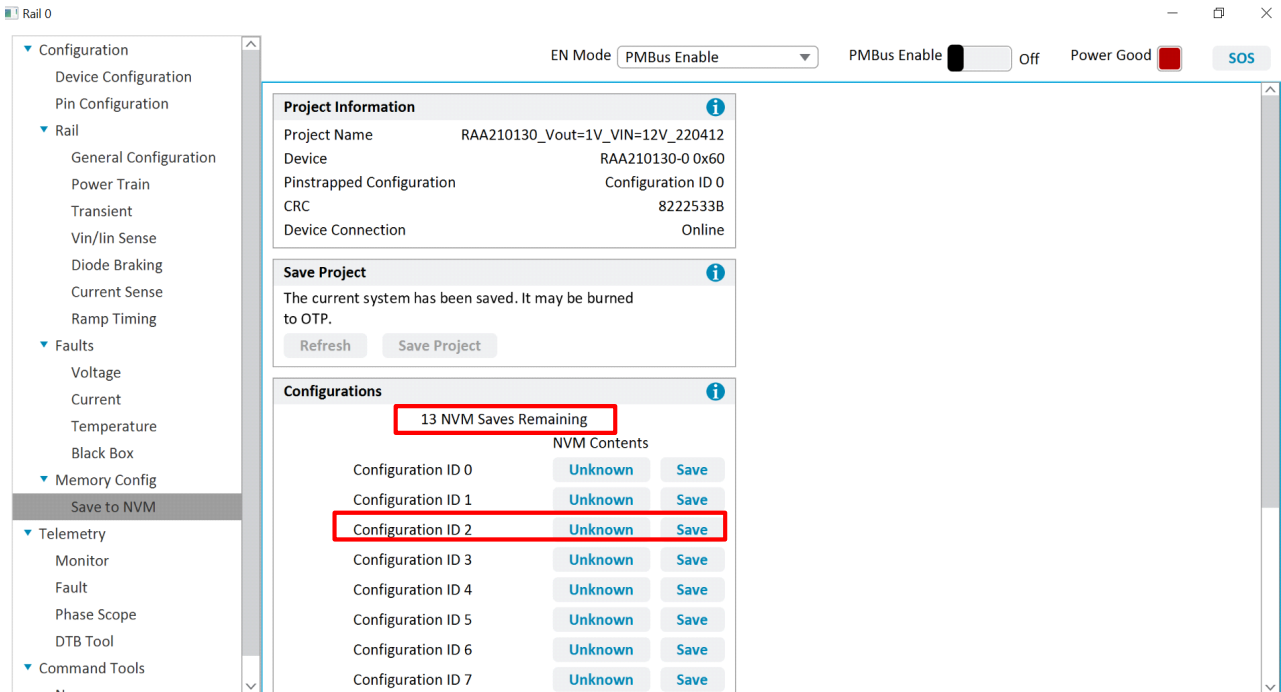

Figure 6. Save to NVM
- In the configurations window, under **Memory Config**, select **Save to NVM**. Check that the CRC number shown in Project information section is what is to be written. Under **Save Project** section, click on **Refresh**. Under the Configurations section the word Save on the right of every Configuration ID turns blue as shown in Figure 6. The first line under Configurations section shows the number of NVM saves remaining. Select a configuration to save to and hit **Save**. In this example, Configuration ID 2 is selected. The user can select any of the 16 configuration IDs.
- 12. After the project is saved, the word **Save** on the right of every configuration ID turns blue, as shown in Figure 6. Select a configuration to save to and hit **Save**.